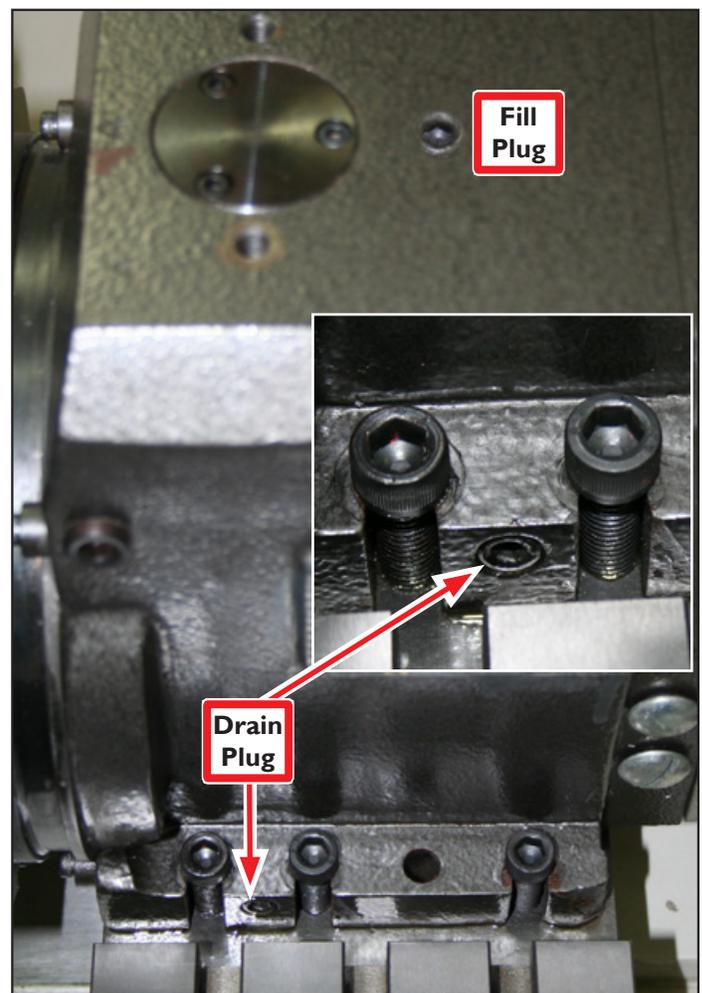

Figure 23
1. Remove oil sump Drain Plug (see **Figure 23**); drain and discard oil; replace Drain Plug.
2. Remove oil Fill Plug (see **Figure 23**).